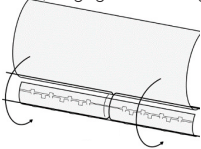

Figure 6
10. Next, engage remaining microhooks and continue entubulation by wrapping the longer leaf of the device around the approximated nerve stumps (Fig. 6).